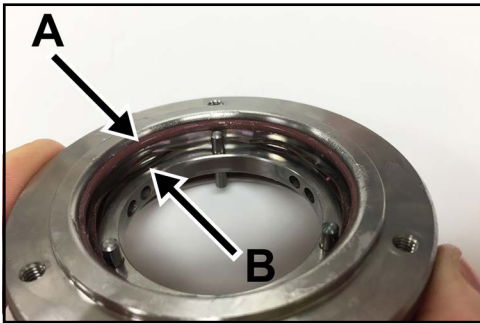

Figure 61 - O-ring and wave spring
4. For a double seal, remove the carrier-to-seal O-ring (A) and the seal wave spring (B) from the flush side of the seal carrier as shown in Figure 61.